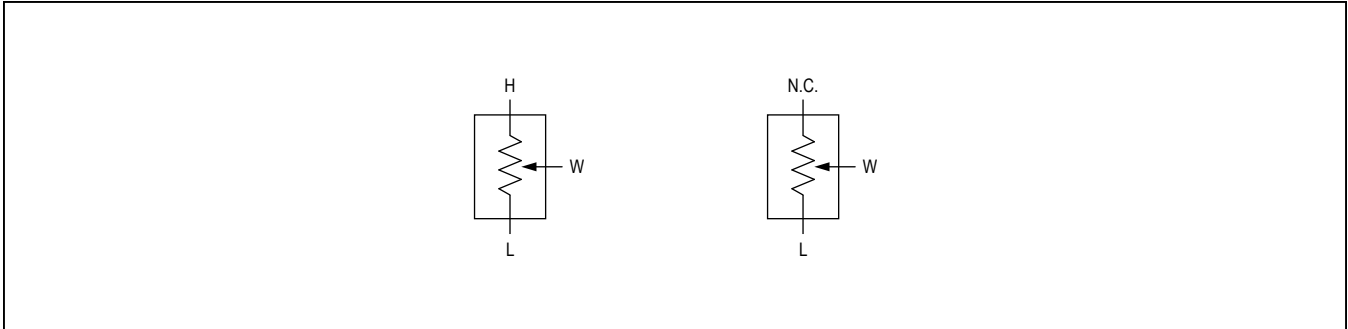

Figure 1. Voltage-Divider and Variable Resistor Configurations
**Note 4:** R-DNL and R-INL are measured with the potentiometer configured as a variable resistor (Figure 1). H is unconnected and L = GND.